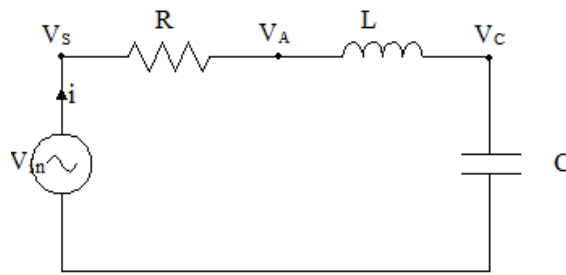

Figure 6.1: Series RLC Circuit
1. Simulate the circuit as shown in Figure 6.1 on PSpice. Keep $V_{in} = 3$ (VSIN) at 8kHz, $R = 1$ k Ω , $L = 10$ mH and $C = 10$ nF. Perform time domain transient analysis and fill Table 6.1.